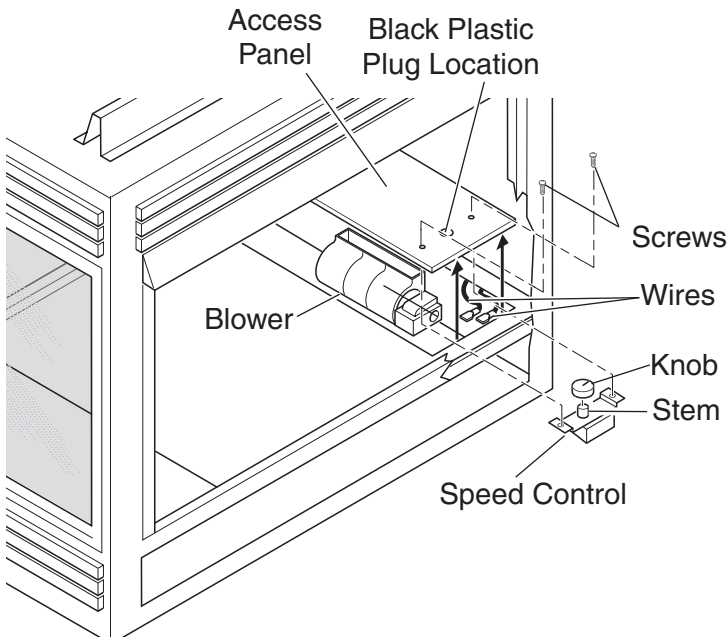

Figure 27 - Installing Variable Speed Control
2. Remove access panel from bottom of firebox. *See Figure 27.*
2. Remove plastic plug from access cover. *See Figure 27.*
3. Remove the knob from the stem of the variable speed control. *See Figure 27.*
4. Align the stem of speed control to largest hole on the access cover of the firebox. Attach speed control with two 6-32 screws provided. *See Figure 27.*